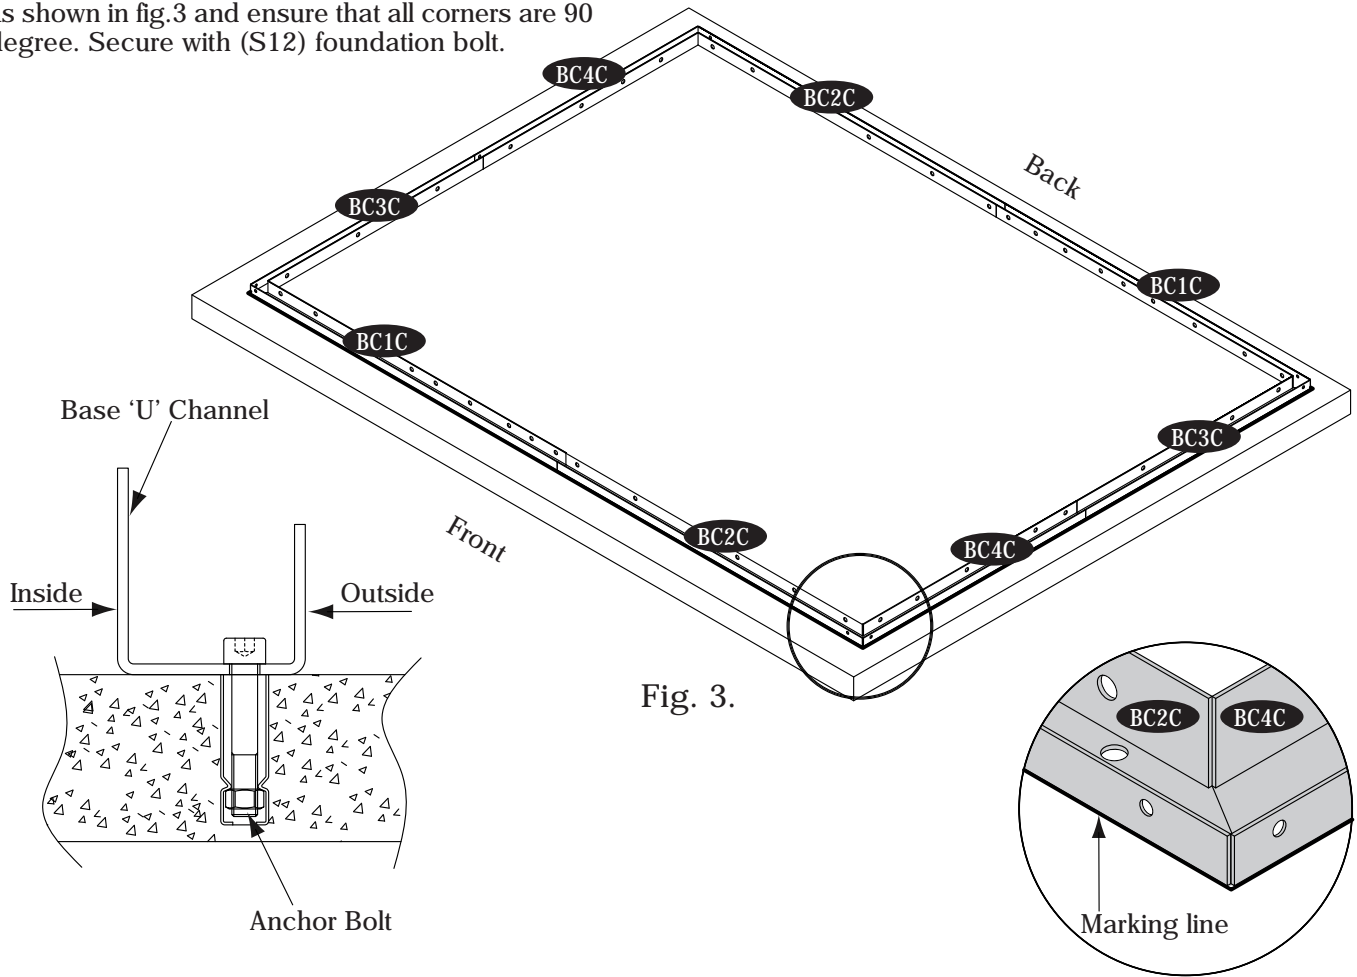

Fig. 3.
3. Place the base 'U' channels on the marked lines as shown in fig.3 and ensure that all corners are 90 degree. Secure with (S12) foundation bolt.